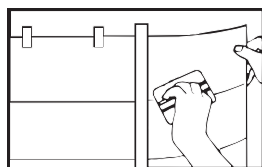

FIGURE 4
3. Fold back holding decal off surface. Starting at center of tape hinge, squeegee decal using very firm, vertical overlapping strokes. Throughout application keep the unapplied portion of the decal off the surface, allowing it to touch only from squeegee pressure. (FIGURE 4)